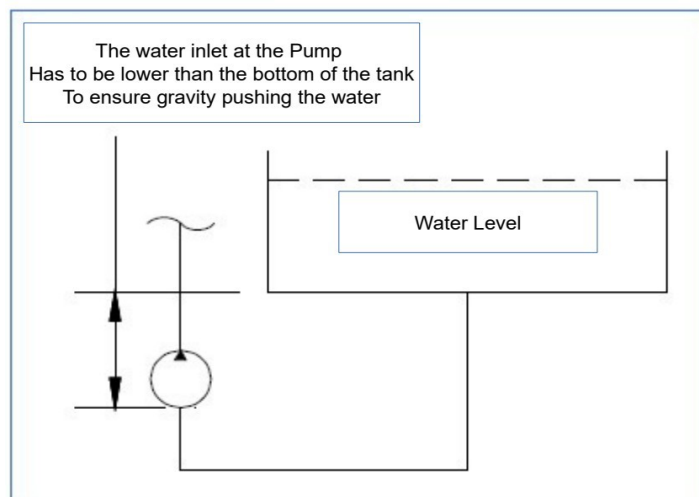

Figure 4.3 – Gravity Feeding Source
3. Gravity feeding water source (See **Figure 4.3**). Use a hose with a diameter of at least 1-1/2” to connect the water tank to the Power Unit water inlet.
Ensure that the water source can reliably deliver the maximum pump flow of 50 GPM (189 LPM). A minimum flow of 40 GPM (150 LPM) is recommended to ensure that the pump is not starved of water. If connecting to a gravity feed tank, locate the tank outlet above the water inlet connection on the power unit to ensure a flooded suction line (See **Figure 4.3**).